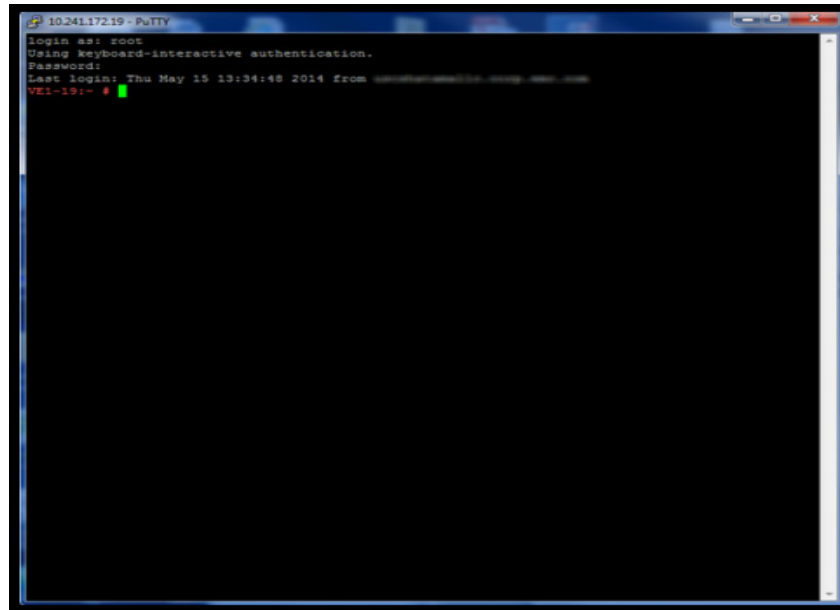

Figure 167 Logging in as root
1. From an ssh session or a console session of the SRS shell, log in using the root credentials established during the first boot configuration of the install process, as shown in Figure 167 on page 128.